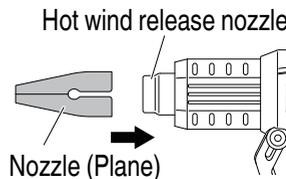

Fig. 5
4. Attaching the Nozzle (Fig. 5)